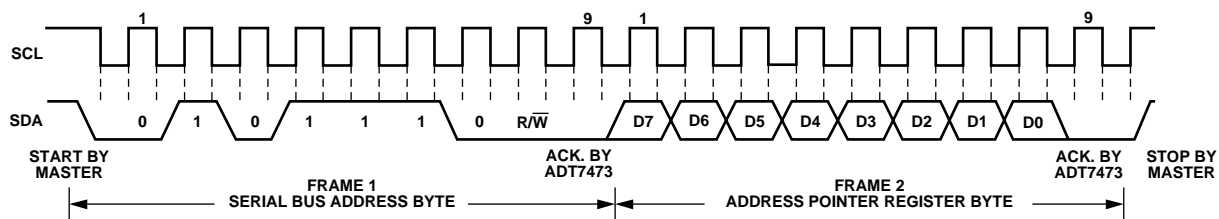

Figure 15. Writing to the Address Pointer Register Only
- If the ADT7473's address pointer register value is unknown or not the desired value, it must first be set to the correct value before data can be read from the desired data register. This is done by performing a write to the ADT7473 as before, but only the data byte containing the register address is sent, because no data is written to the register. This is shown in Figure 15.